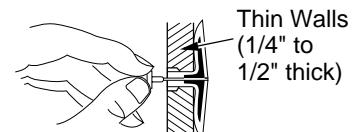

Figure 5 - Popping Open Anchor Wings For Thin Walls
4. For thin walls (1/2" or less), insert red key into wall anchor. Push red key to "pop" open anchor wings (see Figure 5).